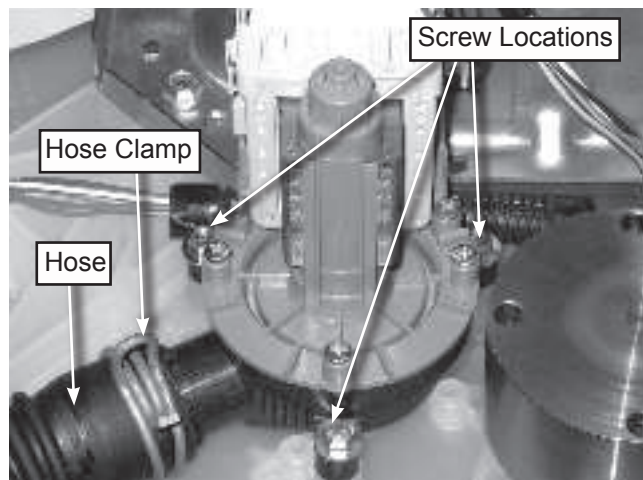

Figure 1
6. Remove hose clamp and hose, see figure 1.